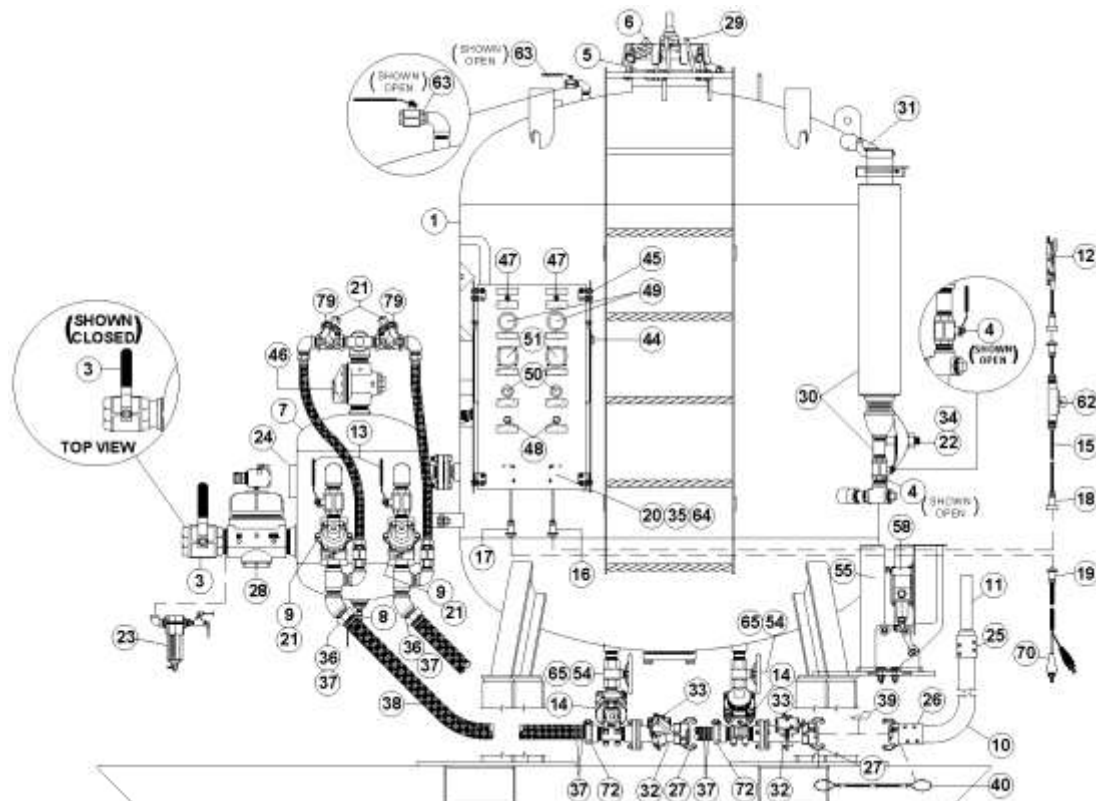

Figure 6.2 – Bulk AmphiBlast™ With Electric Controls
6.1 Bulk AmphiBlast™ Setup Procedure (see Figure 6.2)
- 6.2.1. Close the air inlet ball valve (#3). The ball valve is closed when the handle is fully turned to the position shown in Figure 6.2 (handle perpendicular to body). The handle tab will bottom against the ball valve body in the closed position.
6.3 Closure Assembly Opening Procedure (See Figure 6.2, 6.3.1 and 6.3.2)
- 6.3.1. Taking the proper fall protection measures, access the closure (#5) using the bulk abrasive blaster ladder. See Figure 6.2.
- 6.3.2. The bulk abrasive blaster **MUST** be completely depressurized before attempting to open the closure assembly (See Section 6.2). Verify that the abrasive blaster is completely depressurized by opening the pressure indication ball valve (#63) next to the closure (see Figure 6.2). If any air leakage occurs, **DO NOT CONTINUE**. Follow the depressurizing procedure in Section 6.2. **DO NOT** depressurize the bulk abrasive blaster through the pressure indication ball valve (#63).